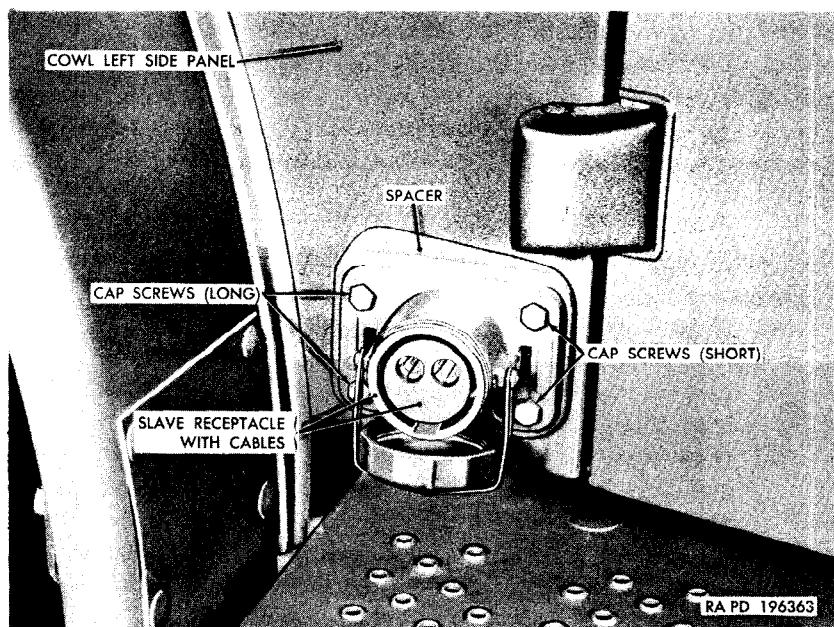

Figure 130. Auxiliary power receptacle installed.
- (6) Remove the four bolts and lockwashers that secure the receptacle to the spacer on the cowl panel (fig. 130), and remove the receptacle with cables.
- (1) Insert the receptacle cables through the opening in the spacer and the cowl panel with the short (ground) cable toward the rear of the vehicle. Position the receptacle on the spacer, and install the two $\frac{1}{4}$ -inch lockwashers and $\frac{1}{4}$ -28NF x $1\frac{1}{4}$ cap screws in the two rear holes, and two $\frac{1}{4}$ -inch lockwashers and $\frac{1}{4}$ -28NF x $1\frac{3}{4}$ cap screws in the two front holes (fig. 130). Tighten the screws.
- (2) Install the grommet over the cables and thread the cables through the grommet retainer with the dished side of the retainer toward the grommet. Position the grommet and retainer on the inner side of the cowl panel and install the two $\frac{1}{4}$ -20NC x $\frac{3}{8}$ cap screws. Tighten the screws.
- (3) Attach the receptacle ground cable to the left running board front hanger. Place a $\frac{3}{8}$ -inch, internal-external-teeth lock-washer at each side of the cable terminal, position the parts over the screw hole in the hanger, and install the $\frac{3}{8}$ -24NF x 1 cap screw and $\frac{3}{8}$ -24NF nut. Tighten the nut.